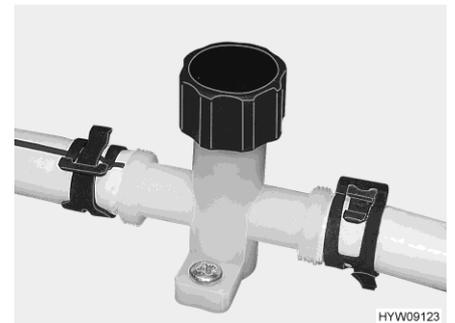

Fig. 127 Drain cock (water pipe)
- Close the drain cocks (Fig. 127). In order to do this, turn the cap in a clockwise direction, respectively. The position of the safety/drainage valve and the drain cocks is specified in the section 10.7 at the end of this chapter.